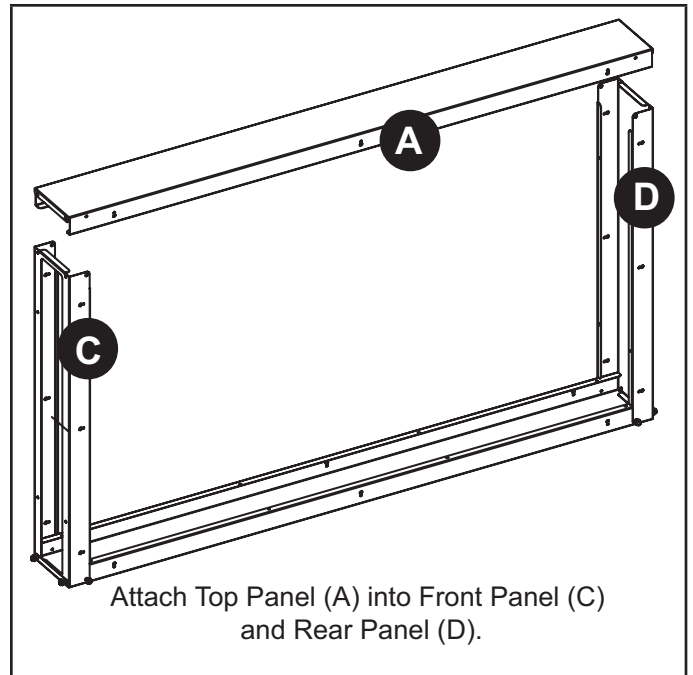

FIGURE 13. Install Top Panel (A)
- 3 - Align and attach remaining Top / Bottom Panel A into front panel C and rear panel D. Verify that all screws are tight before attaching filter rack to unit (see figure 13).